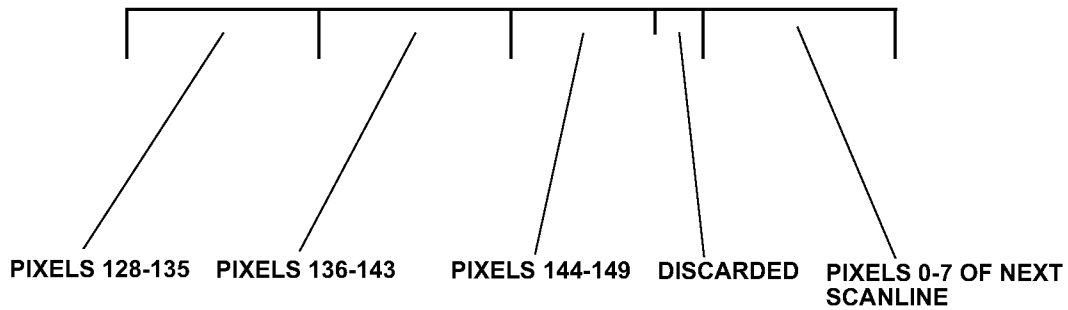

Figure A-4. Color Expand Transfer
- e) The data sent in the fifth double-word transfer is shown in Figure A-4